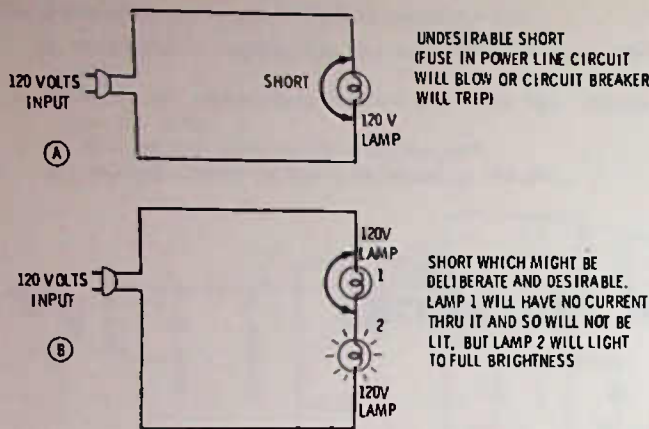

Fig. A-1.
22. C. A short circuit is in most cases an undesirable condition. It is a low resistance path for current which allows the circuit to bypass the normal load. Fig. A-1 indicates two different kinds of short circuits. In the first, if a short occurred across the lamp, the fuse in the power supply circuit would blow, because the wire would have small resistance and extremely high current would flow. In the second circuit, if we had two lamps of the same size in series, the voltage would divide across the lamps and both would be dim, but by placing a short across one lamp we can cause it to be extinguished and the other lamp to have full brightness.